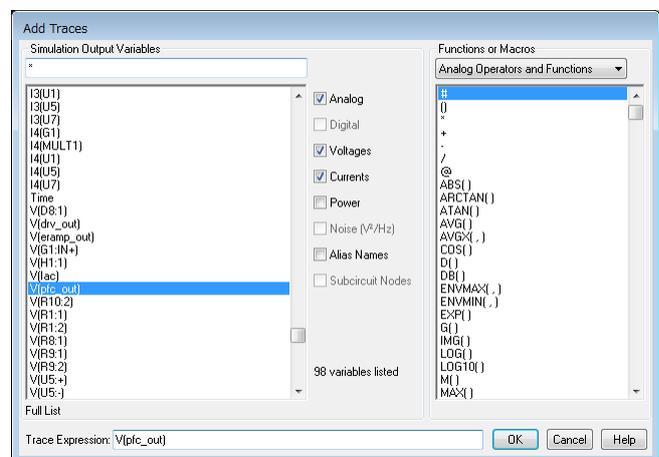

Fig. 5.6 Add Traces dialog box
2. Then, the Add Traces dialog box shown in Fig. 5.6 appears. Select traces to be added to a selected plot. To view a voltage waveform, select V(trace_name). To view a current waveform, select I(device_name). See Fig. 5.6.